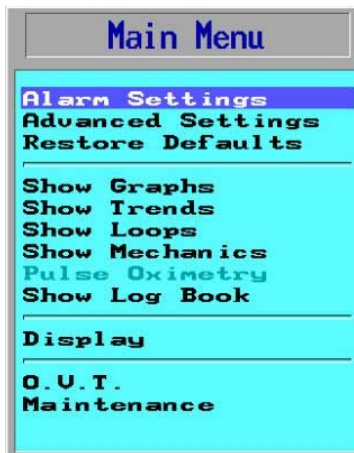

Figure 75: The Main Menu
2. Press the Control Knob and the **Main Menu** pop-up window appears (Figure 75):
1. Select and press the **Menu** option in the Main screen to access the Main Menu (Figure 75)